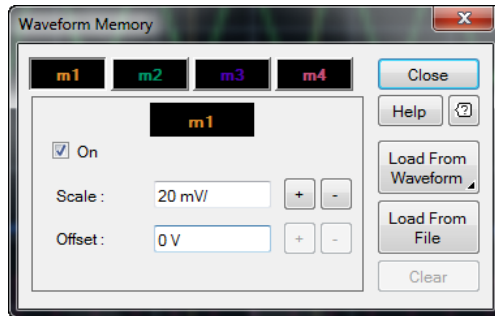

Figure 2-49 Waveform Memory dialog
- 2 The Waveform Memory dialog is displayed as shown in Figure 2-49.